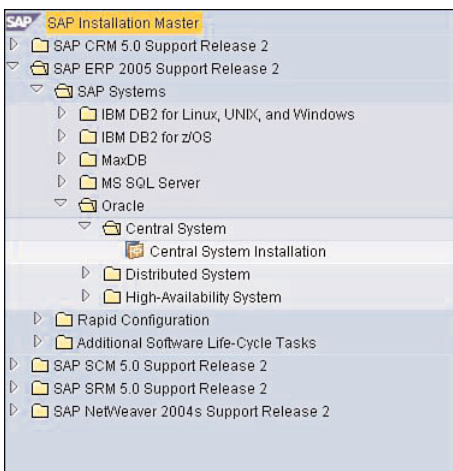

FIGURE 25.1 The SAP Installation Master gives you the opportunity to install the Business Suite applications, NetWeaver components, and standalone engines.
2. Select Central System Installation, as shown in Figure 25.1, and click Next.